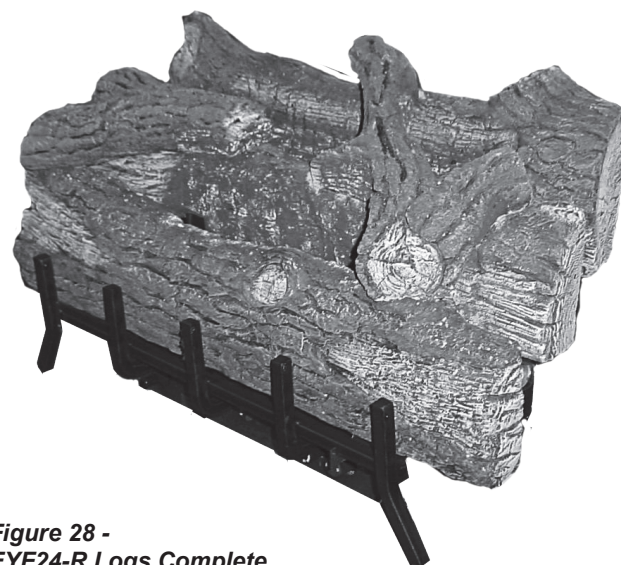

Figure 28 - EYF24-R Logs Complete
5. Rest Top Left Log (#5) in front and middle log cutouts. *Figure 28*